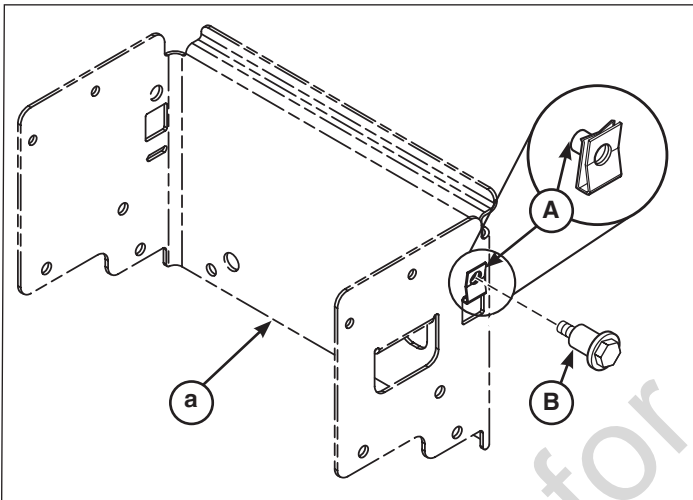

Figure 1
1. Install the speed nuts (**A**, Figure 1) in the square holes of the rear frame support (**a**). The threaded side is on the inside of frame support.